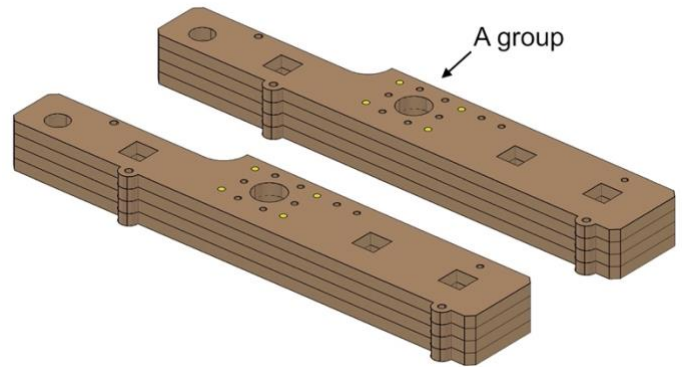

Fig. 2
- *Fig. 2* shows the completed process (make two parts).